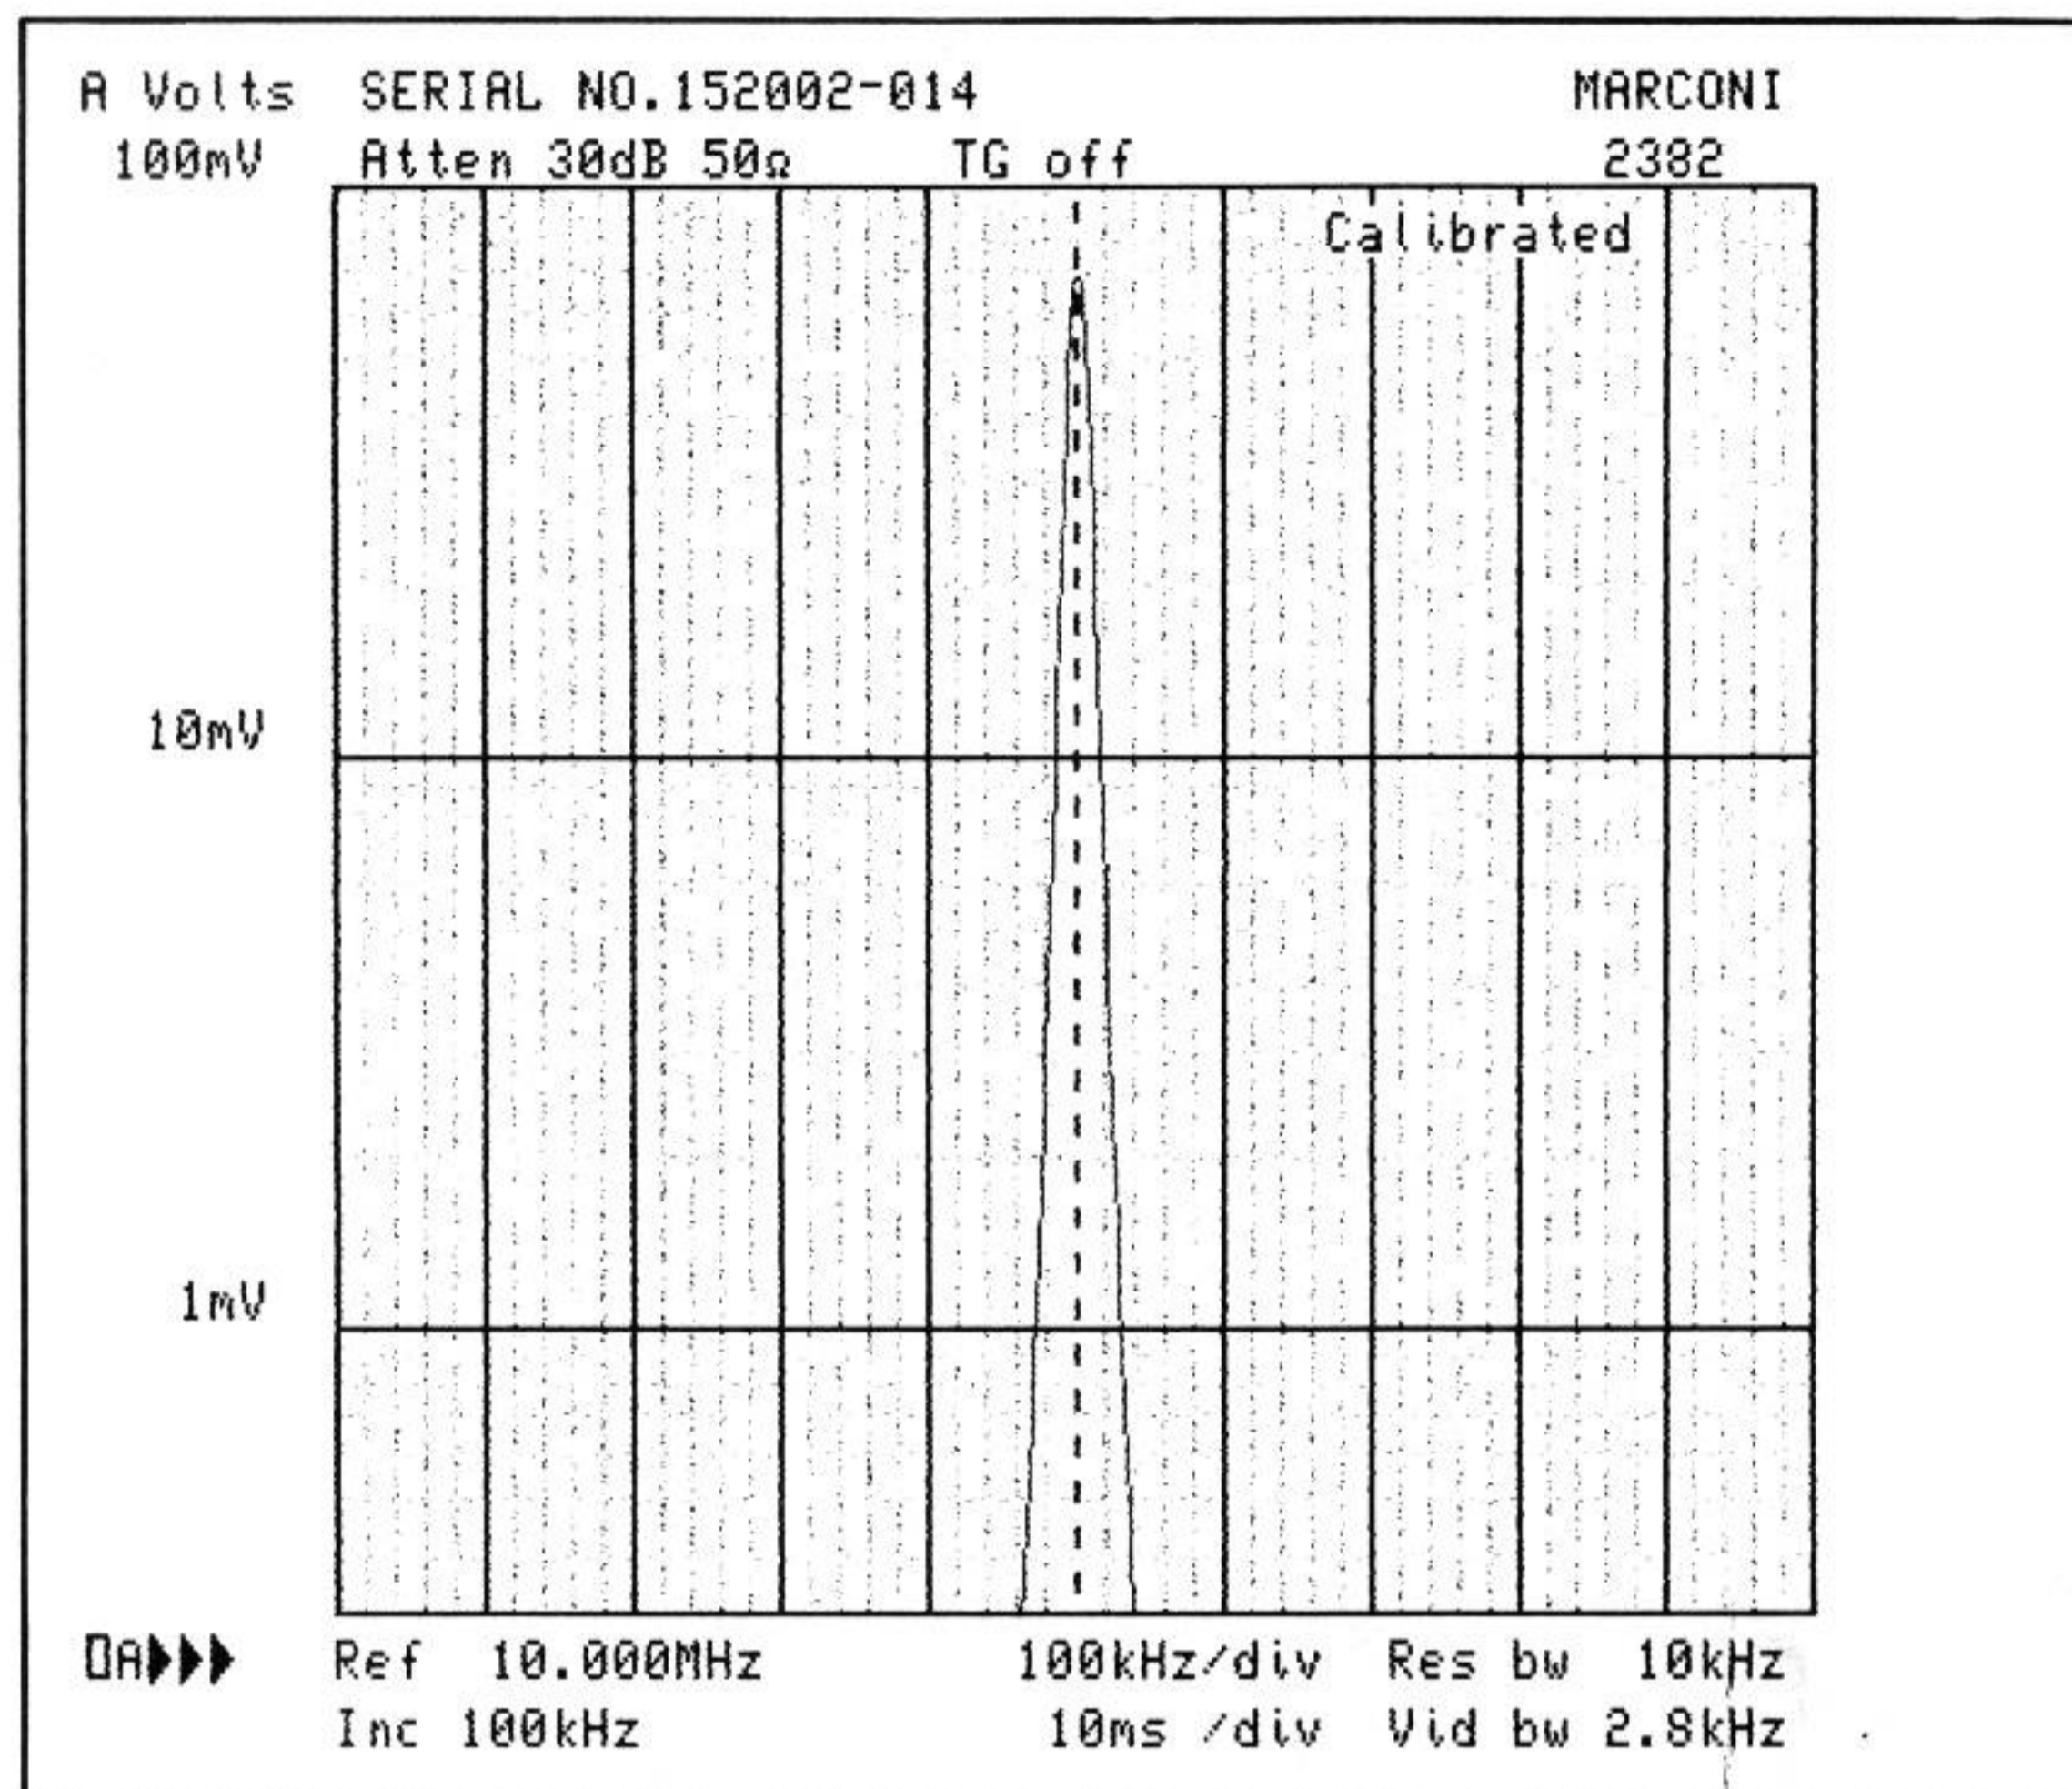

Fig. 11 LOG volts, vertical scale
58. Now press the 2ND FUNCT then VOLTS/DIV keys (LOG). This causes the horizontal lines of the vertical scale to appear in logarithmic form covering a range of two and a half decades. The top of scale annotation initially indicates 1 V and the other major decade boundaries 100 mV and 10 mV progressing towards the bottom of the display. Once again the voltage at the peak of the displayed signal can be assessed (70 mV) and the range can be changed, using the REF LEVEL ↑↑ keys, in a 1,10,100 sequence (refer to Fig. 11). Press SELECT & PRESET to restore the vertical scale to dBm, 10 dB/div.